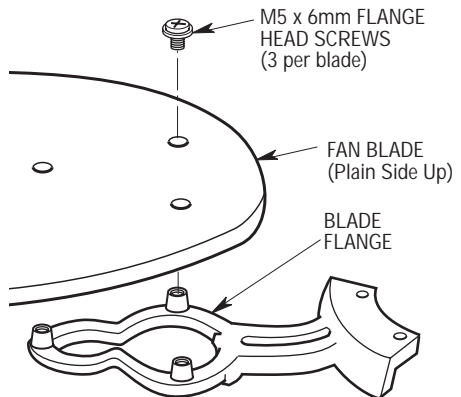

Figure 6
- 10. Install and tighten the three M5 x 6mm flange head blade screws to secure the fan blade to the blade flange (Figure 6). Repeat this procedure for the remaining four blades.
NOTE: Be sure the plain side of the ceiling fan blade is facing up as shown in Figure 6.